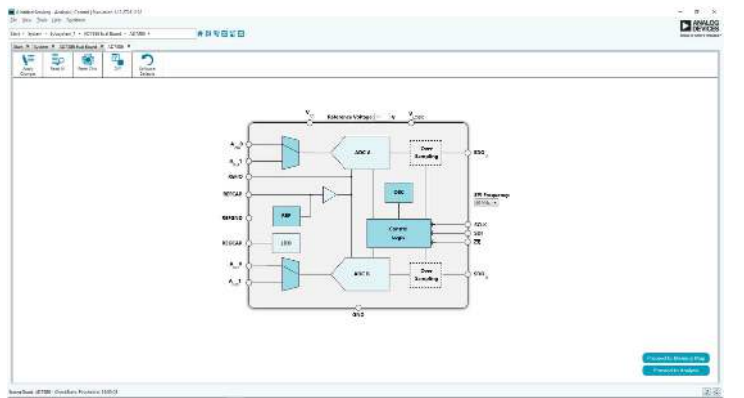

Figure 14. Chip View
3. Double-click the **AD7386** chip icon to open the chip view window (see Figure 14).
Click the **AD7386** chip icon in the board view to open the window shown in Figure 14. The chip view shows the configurable block diagram of the **AD7386**.